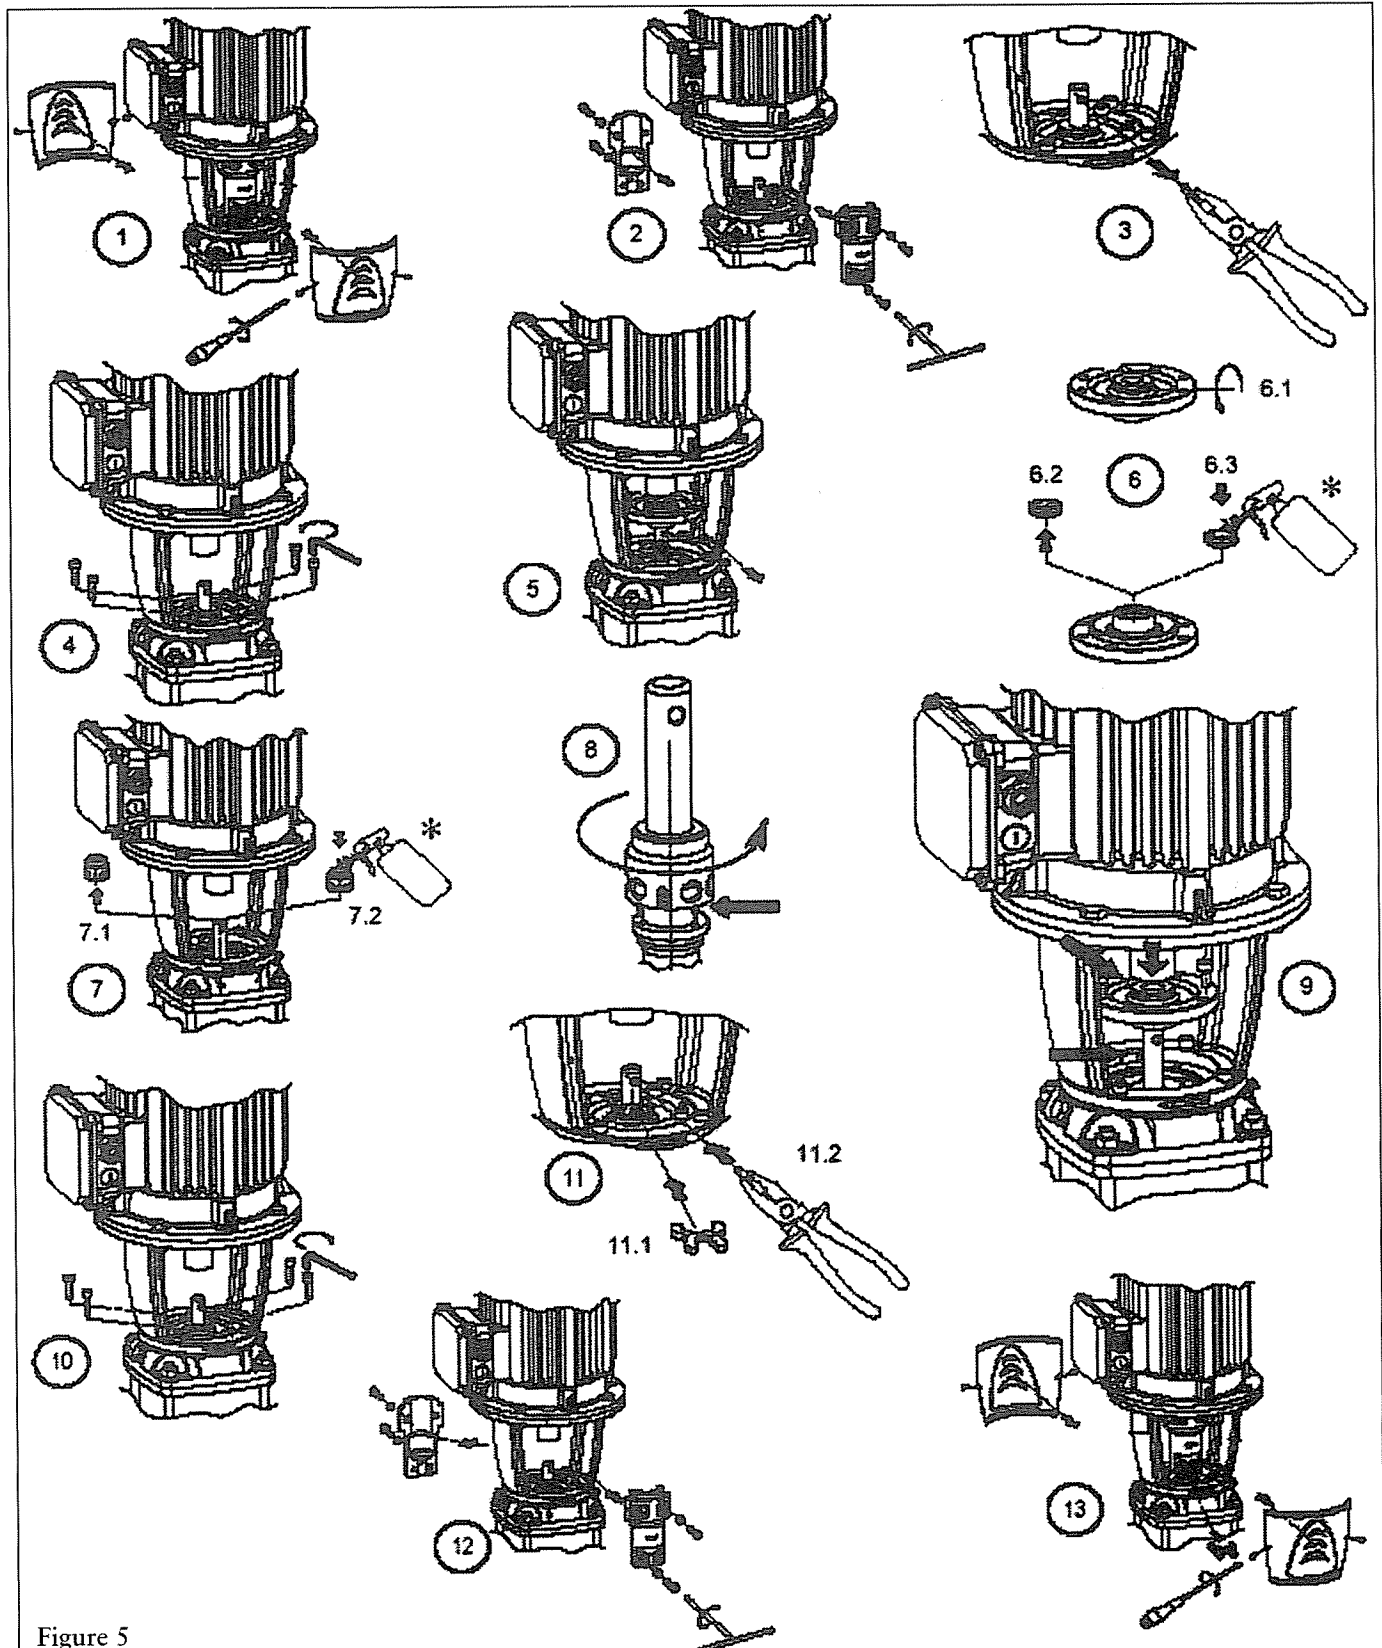

Figure 5
smooth with (fine grit) emery paper. See step 7 in Figure 5.
8. Lubricate the o-ring located in the ID of the rotary unit of the mechanical seal with a lubricant compatible with the seal elastomers. Carefully slide the rotary unit of the mechanical seal down the shaft. Rotate the seal to locate the pin on the bottom of the seal with the holes in the shaft sleeve. Cycle seal up and down to lubricate o-ring and prevent seal from sticking to shaft. See step 8 in Figure 5.
Carefully reinstall the seal housing between the pump and motor shaft and slide the seal housing down the shaft into position. Use caution when mounting the sealhousing between the pump/motor shaft so that the seal face on the stationary seat is not damaged. See step 9 in Figure 5.
10. Reinstall the 4 hex cap screws, tightening the screws evenly and then torquing them to the values given in the engineering data. See step 10 in Figure 5.
11. Reinstall the coupling pin and locate the space shim on the shaft on the seal housing. If the shim is not available, a 5 mm spacer can be used. See step 11 in Figure 5.
12. Reinstall the coupling halves and evenly tighten the coupling bolts and torque them to the values given in the coupling section. Remove the spacer shim and save for future use. See step 12 in Figure 5.